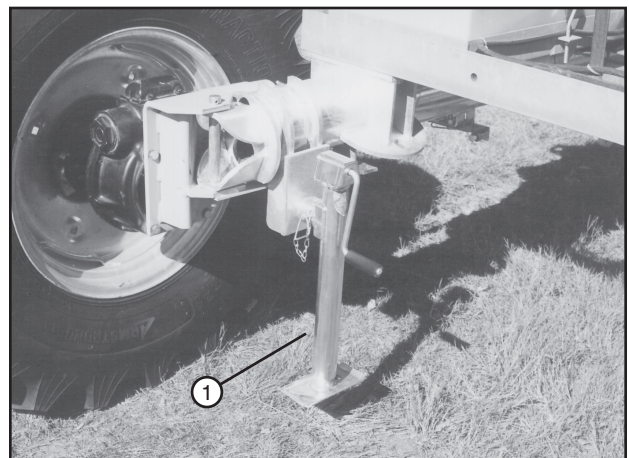

Figure 77-3 1. Jack
3. Rotate the jacks to the vertical down position. See Figure 77-3.